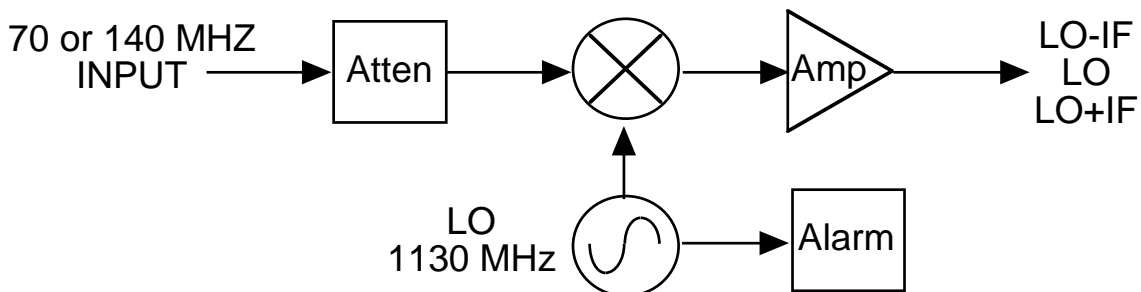

FIGURE 3.1 Block Diagram
3.1 Block Diagram Description - 2006-03 (Figure 3.1)